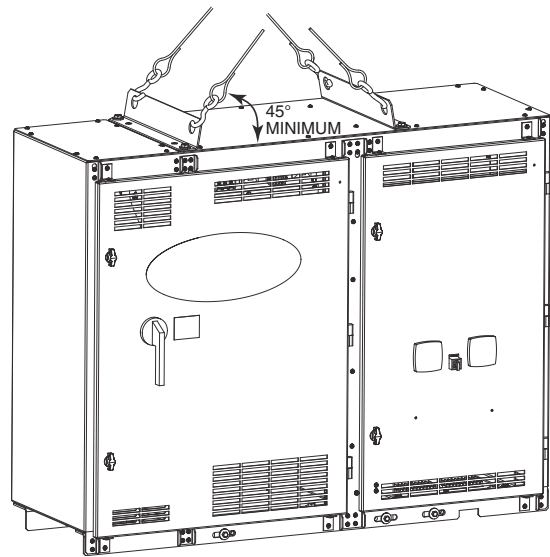

Fig. 15 — 442A and 608A LF2 VFD Enclosure Lifting Points
3. Rig the control center and remove the bolts that secure it to the VFD mounting brackets on the condenser. See Fig. 15.